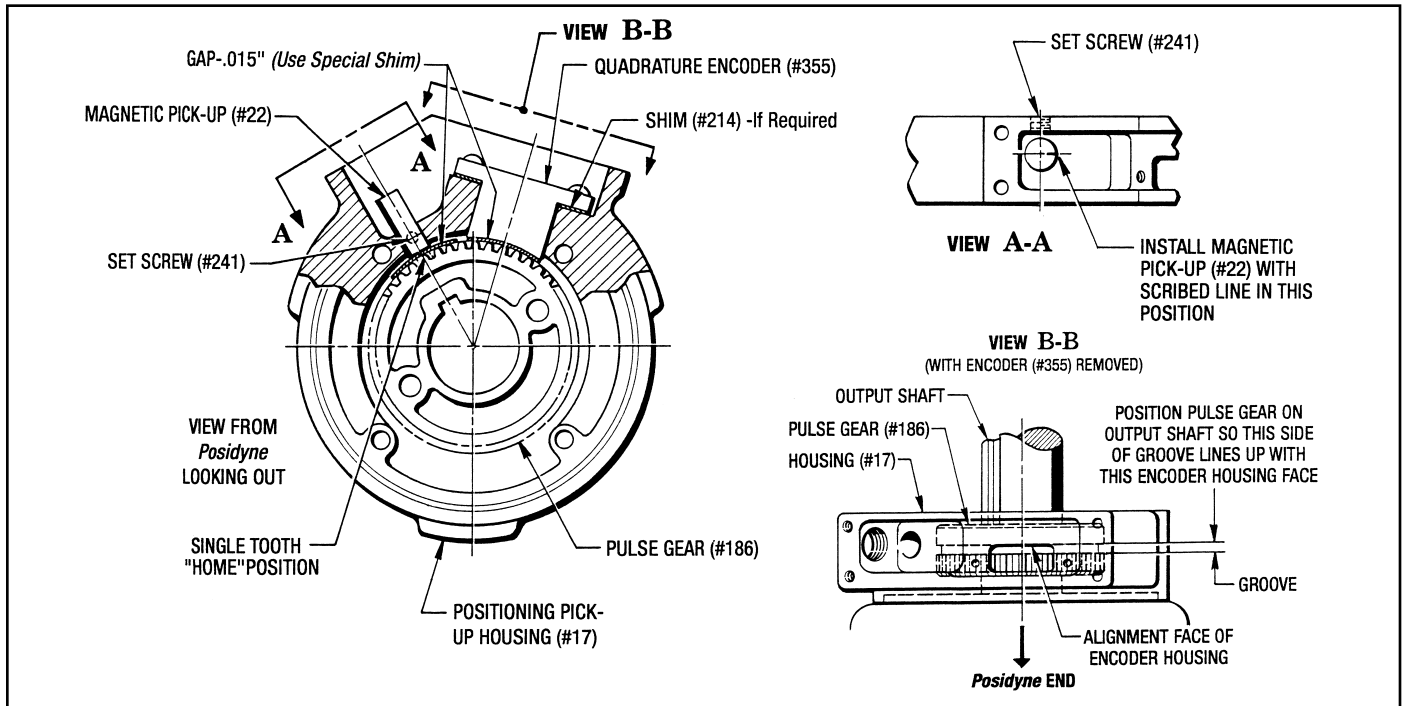

Figure 5.2 - Position Sensor Installation
2. Attach the Encoder Housing (#17) to the output housing with (4) Screws (#76) and (4) Washers (#257).
3. Slide the Pulse Gear (#186) on to the output shaft, aligning the groove in the pulse gear with the alignment face of the encoder housing, as shown in *View B-B* Figure 5.2. Tighten Set Screw (#154).
3. Check the Gap between the Pulse Gear and the Encoder with the Special .015" Shim that you made. If necessary, remove the Encoder and place Shims (#214) under the Encoder. (.015" is sufficient.) Re-attach the Encoder and re-check the Gap. (See Figure 5.2)
(See Figure 5.2)
2. Insert the Magnetic Pick-Up Sensor (#22) into the hole with the **Scribed Line** in position as shown in Figure 5.2, View A-A.